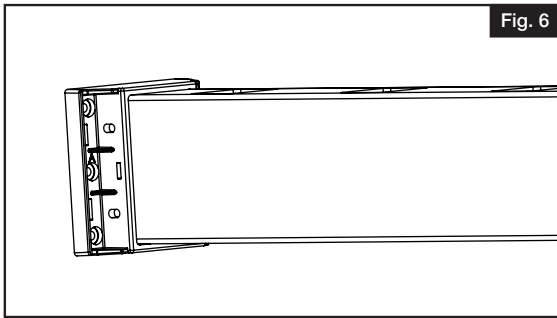

Fig. 6
- Place brackets onto both ends of bottom rail (Fig. 6).
Mark four screw hole locations on each bracket. Set rail section aside, then pre-drill $\frac{1}{8}$ " diameter holes in posts at each mark (Fig. 6).